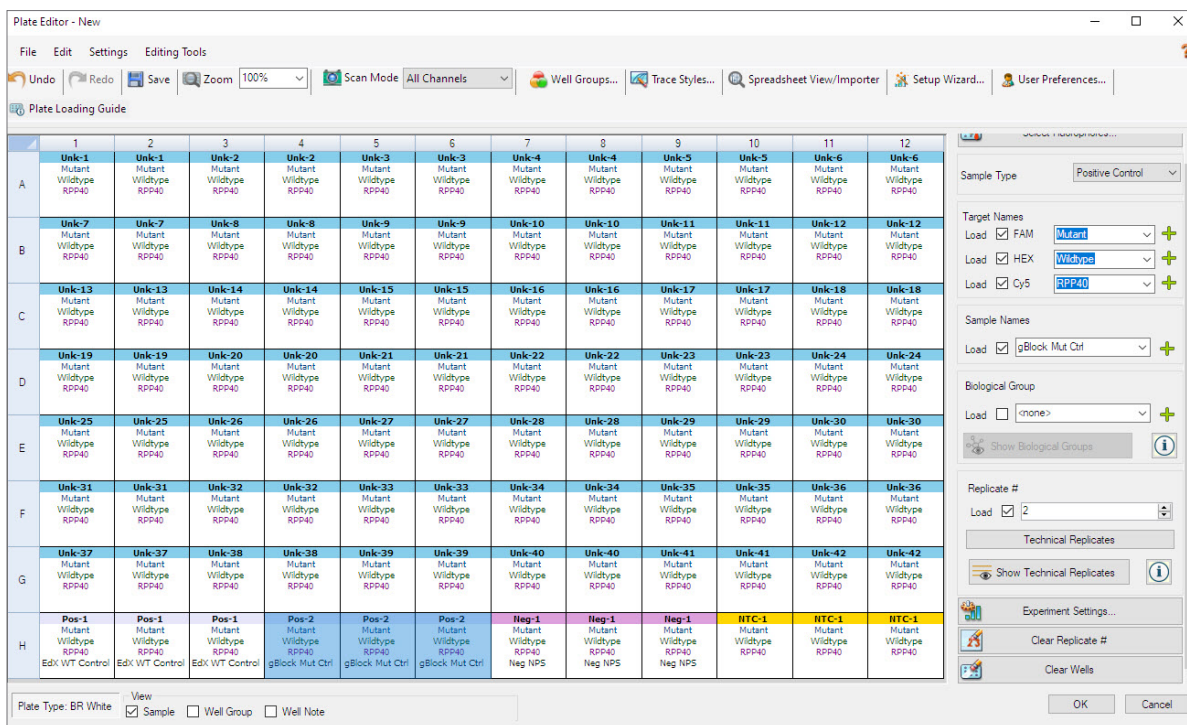

Fig. 1. Plate layout in CFX Maestro Software Plate Editor.
12. Click **OK** to exit the Plate Editor (Figure 1).